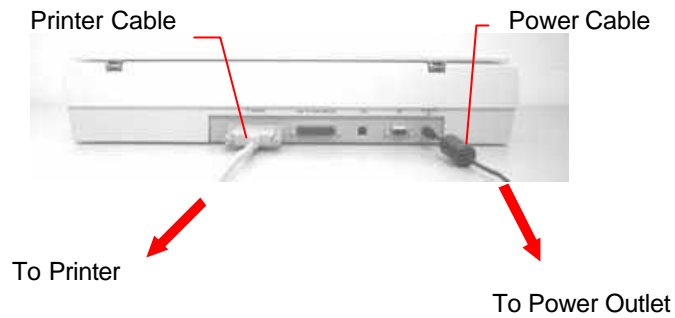

Figure 3.3 Connecting to a laser printer
- b) Plug the other end to your printer. (See the Figure 3.3)